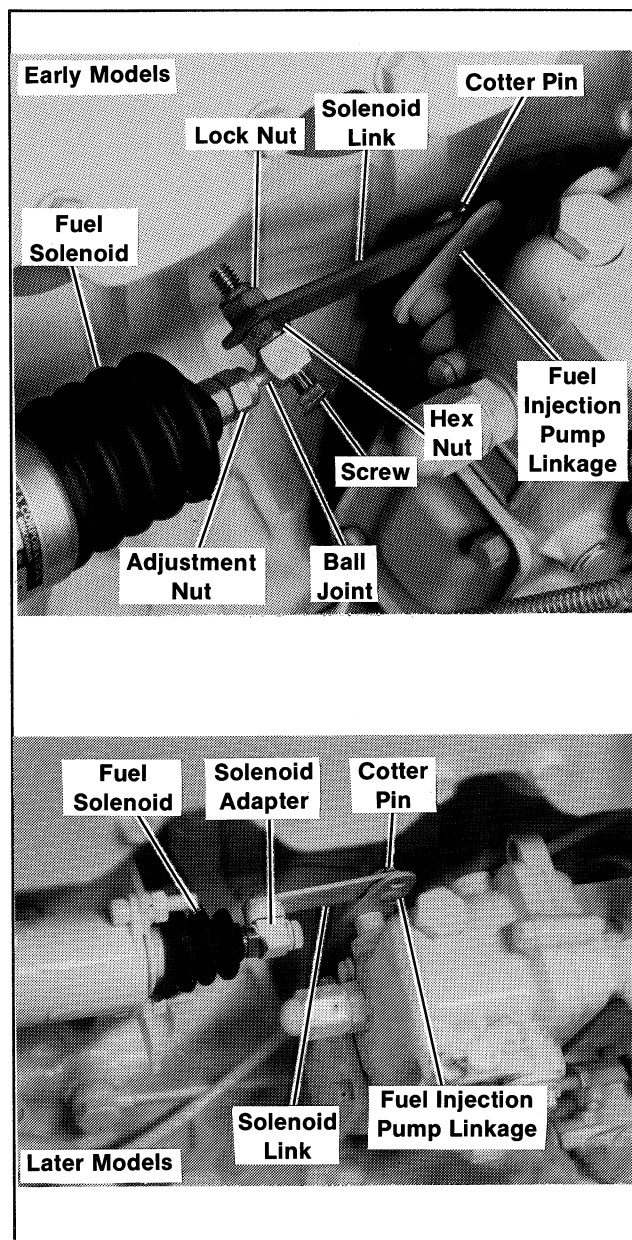

Figure 7-6. Fuel Solenoid (Yanmar)
1. Loosen lock nut on fuel solenoid linkage (early models only). See Figure 7-6.